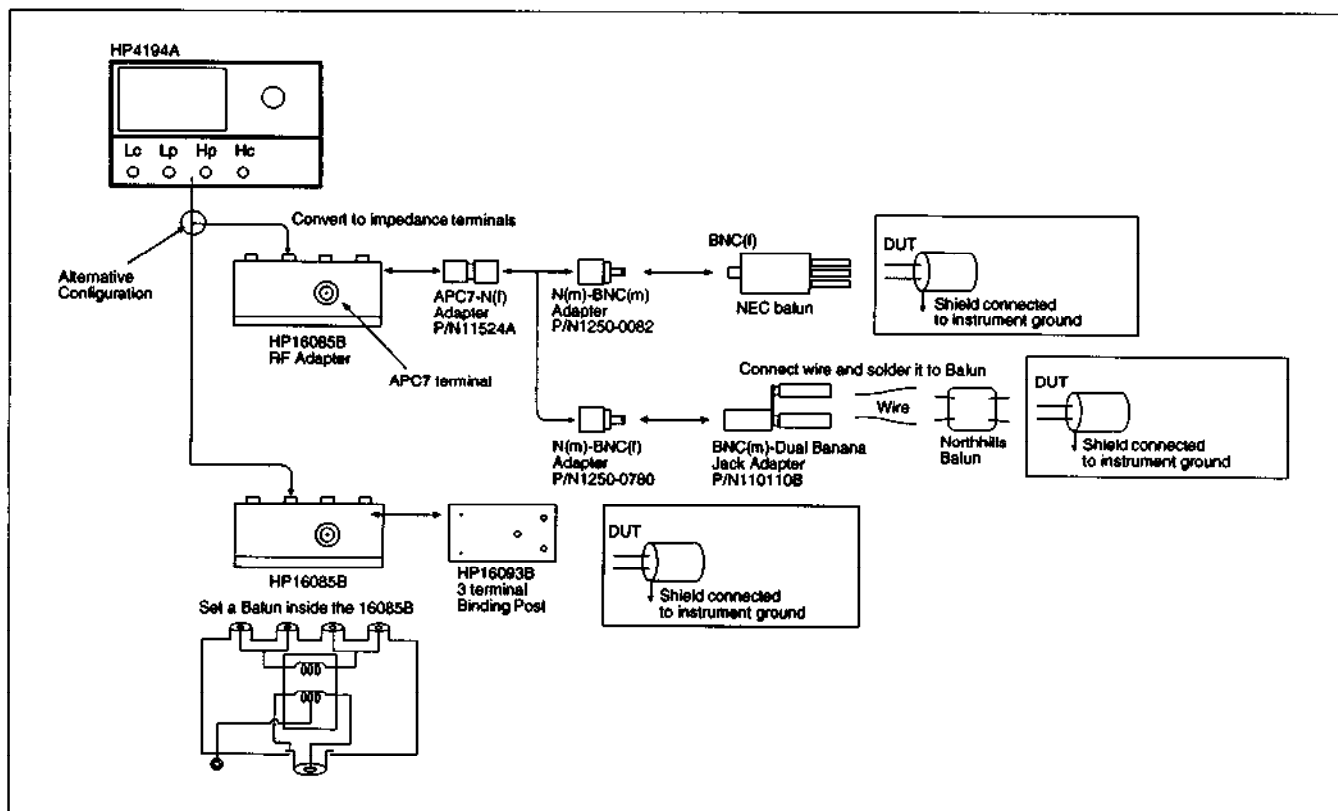

Figure 4. Measurement Configuration (1)
Figure 4 shows impedance measurement configuration (1) with the HP4194A.